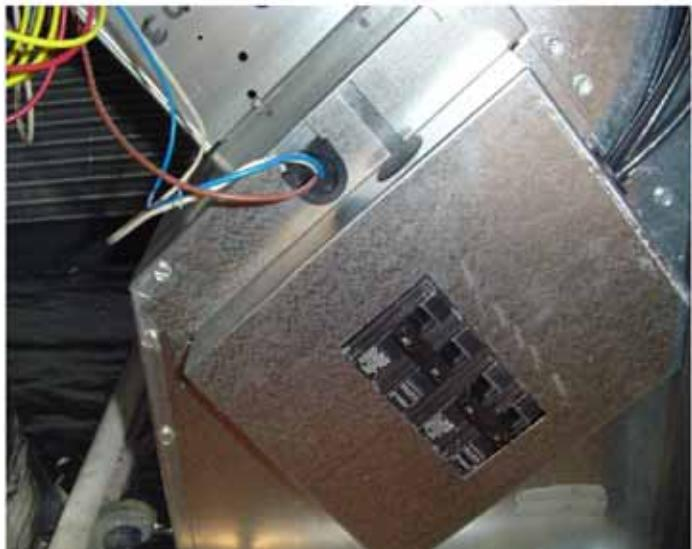

FIGURE 9
12. Install rear mounting plate with the two (2) screws removed in step 6.
15. Install the cover with the two (2) screws removed in step 4, routing the line voltage wires through the rubber grommet as shown in Figure 9.